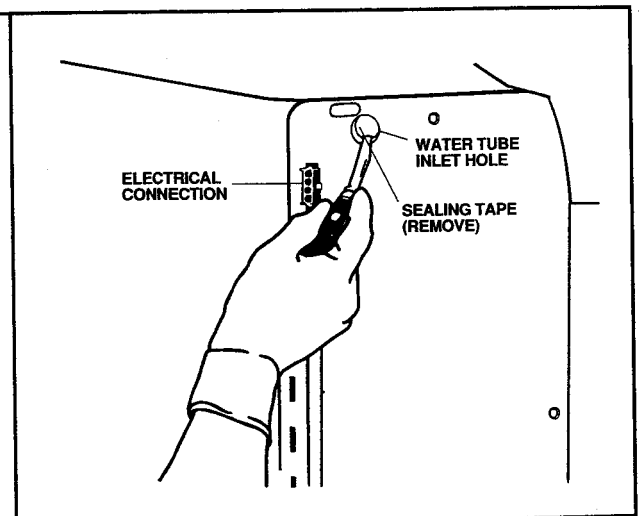

Figure 8
8. Using a small sharp knife, cut out the sealing tape from the water tube inlet hole on the back interior wall of the freezer compartment. See Figure 8.